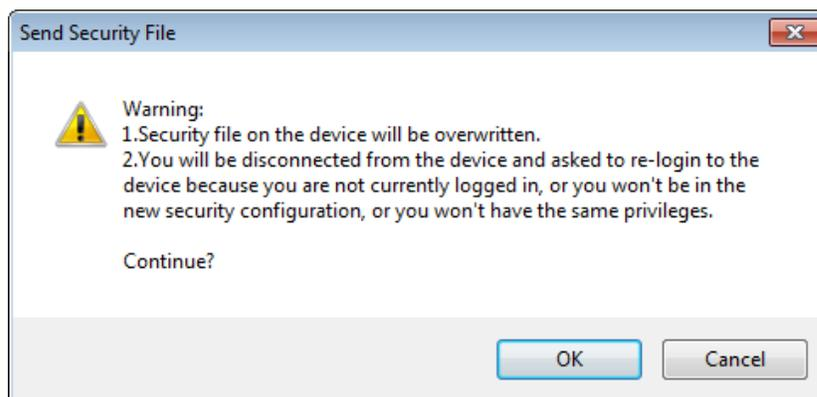

Figure 56: Send Security File warning
- Read the warning (Figure 56). To continue sending the new security file to the flow computer, click **OK**. Otherwise, click **Cancel** to exit the procedure.